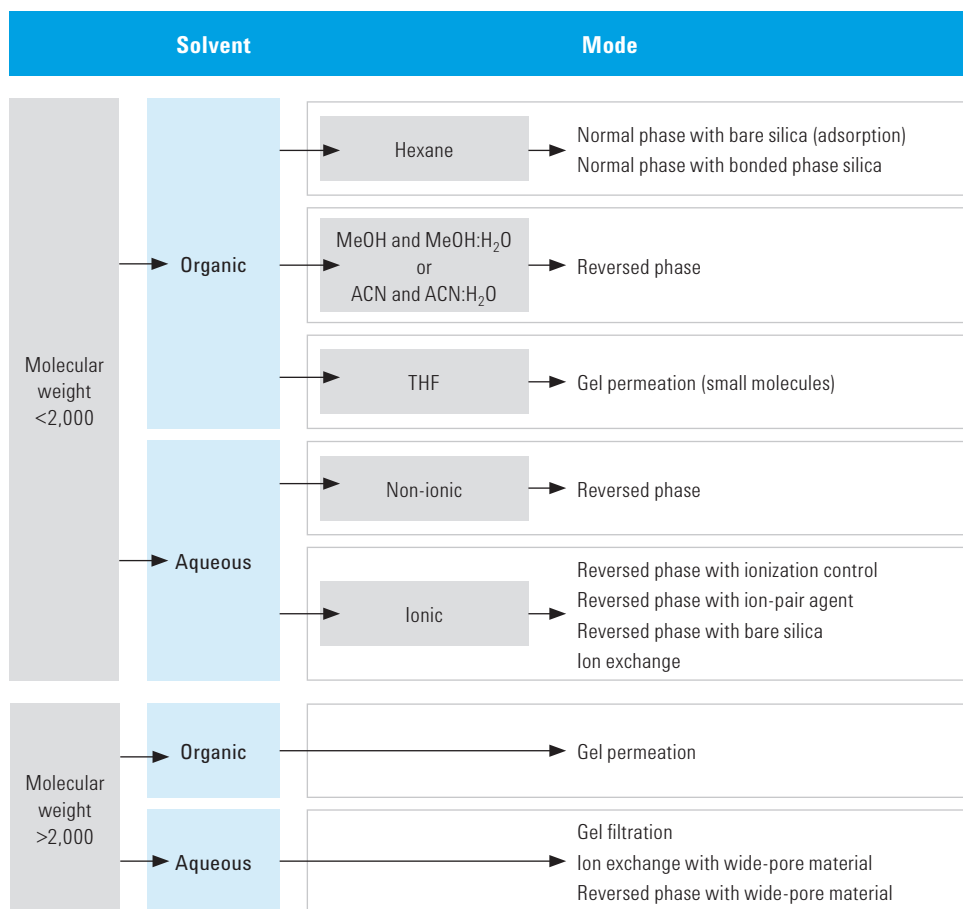

Figure 30. LC and LC/MS column selection by solvent and mode
The first thing you should do is to choose the HPLC mode. The mode is generally decided by the type and solubility of the analyte(s) of interest, its molecular weight (MW), the sample matrix and the availability of the appropriate stationary phase and column. Figures 30 and 31 outline the steps for evaluating the best choice of mode, based on the molecular weight of your compound and the solvents you'll be using.